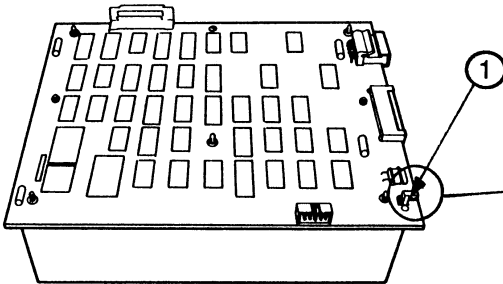
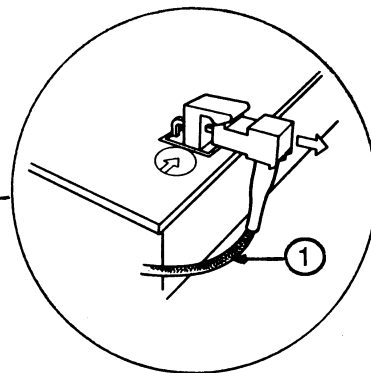

FIGURE 3
FIGURE 4
5. Unplug the LED cable from its socket on the controller board (Figures 3 and 4, #1).
1. Attach the customer's LED cable to its connector on the controller card of the exchange unit (Figure 3, #1). Make sure the LED cable exits down and away from the card (Figure 4, #1).